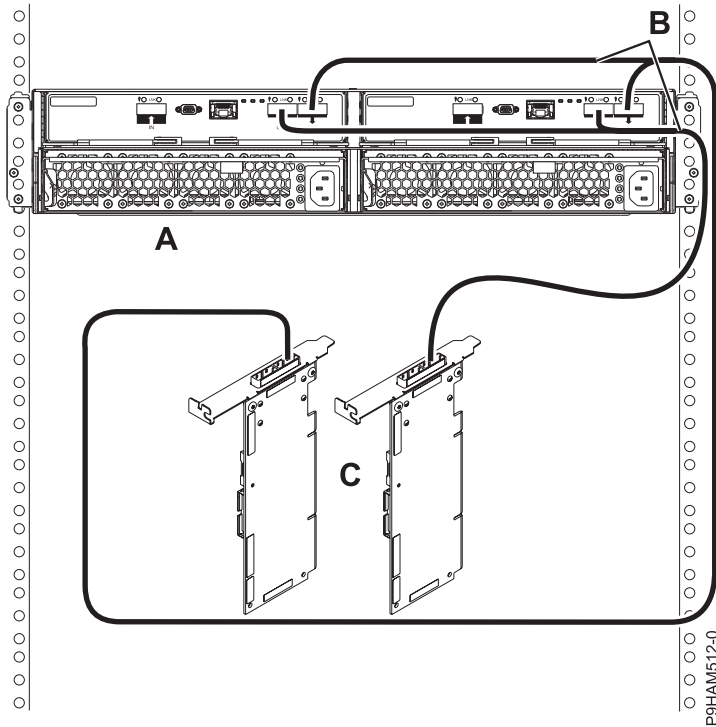

Figure 25. Mode 1 connection of one 5887 disk drive enclosure by using YO cables to a SAS adapter pair
16. Complete a mode 1 connection of one enclosure (A) by using YO cables (B) to a SAS adapter pair (C) as shown in Figure 25 on page 23, and then continue with “Connecting cables, power cords, and installing covers” on page 28.